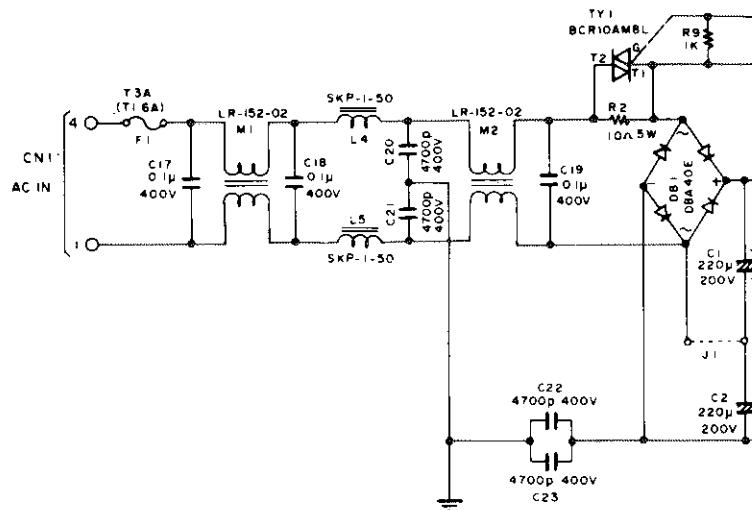

FIGURE 2-3. NOISE FILTER AND INRUSH PREVENTION CIRCUIT
2.2.1 Noise Filter (Figure 2-3)
2.2.2 Inrush Prevention Circuit (Figure 2-3)